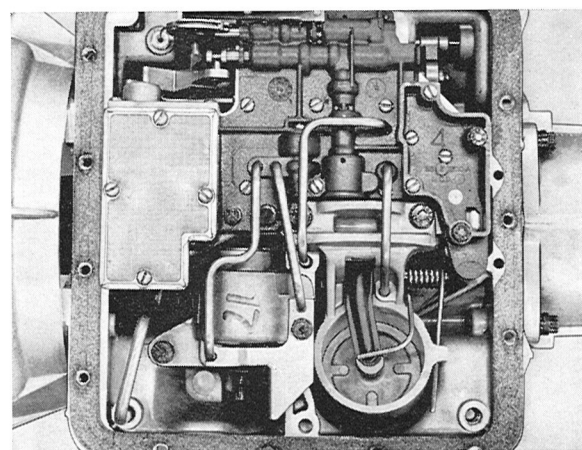

Fig. 4-128. Retention of pump strainer
27. Install the four oil tubes according to Fig. 4-128.